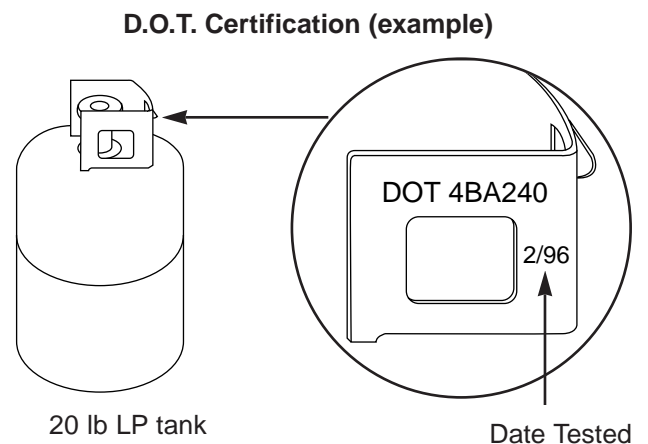

Figure 10
- Replacement LP tanks supplied by Weber satisfy the requirements. Check to be sure the tank has a D.O.T. certification, and has been tested within five years. Your LP gas supplier can do this for you. Figure 10.